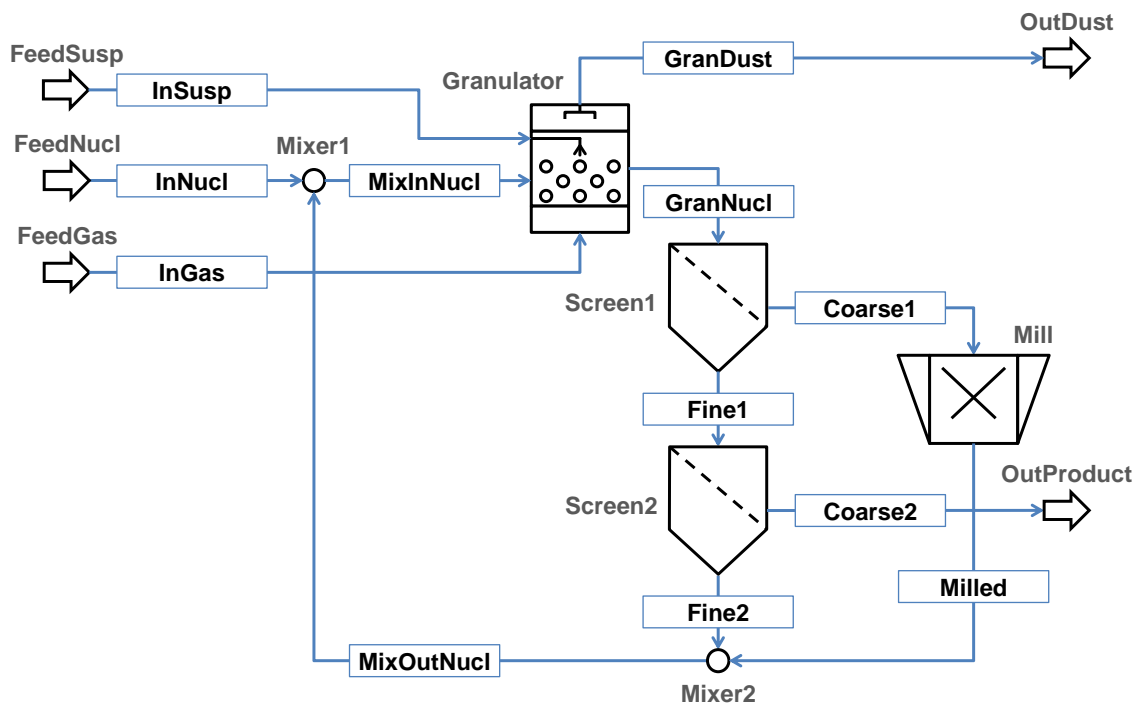

Figure 4. Flowsheet of granulation process.
1. Create a flowsheet in Dyssol with the structure shown in Figure 4. Use the values specified below as process parameters.